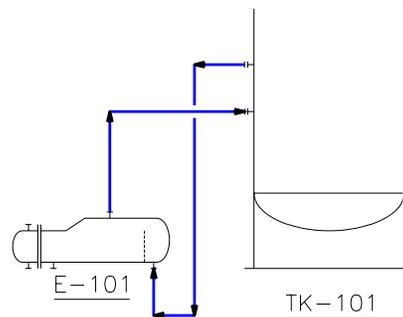

Figure 2-41 Line connecting the vessel and the bottom nozzle of the heat exchanger
10. Invoke the **Primary Line Segment** tool from the **Lines** tab of the **TOOL PALETTES** and connect the vessel to the nozzle located at the bottom of the heat exchanger. The line created should be similar to the one shown in Figure 2-41.